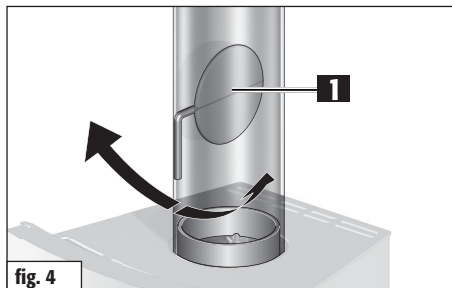

fig. 4
The Luno has to be connected to a suitable chimney with a minimum effective chimney height of 4.50 m. It can be connected to a chimney to which other fireplaces are already connected. The chimney cross section should correspond to the flue pipe cross section. If the effective chimney height is too low and/or the chimney cross section is too large or too small, the draught capability of your stove can be impaired. The Luno stove requires a 11 Pa output pressure (chimney draft). At higher output pressures, the stove emissions increase, which puts a high load on the stove and can lead to damage. The Luno stove has a maximum permissible output pressure of 35 Pa. To limit the output pressure, a butterfly valve (Fig. 4) or output pressure limiter can be used.
The butterfly valve (Fig. 4/1) is an optional control element. It is fitted in the flue pipe and used to regulate the flue gas flow, and can thus slow down the burning-off process. When the handle's position is diagonal to the flue pipe, the flue gas flow rate is turned to minimum. We strongly recommend installing a butterfly valve to reduce the output pressure. Please comply with the country-specific legal regulations.
**Make sure butterfly valve (Fig. 4) is open before opening the fire box door during the burning phase.**